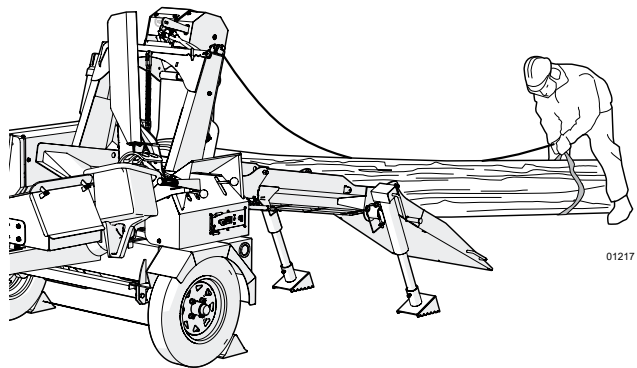

Fig. 35—Move the winch strap
7. Move the winch strap to the far end of the log. See Fig. 35.